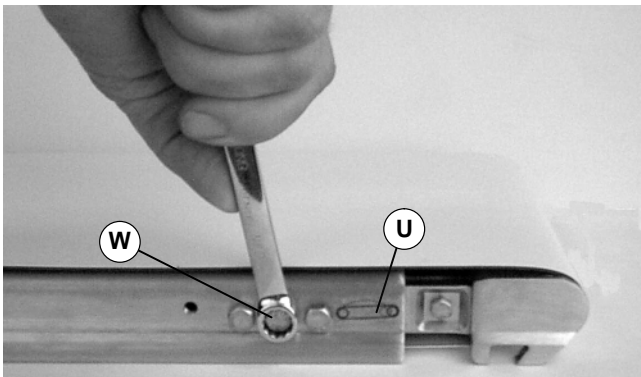

Figure 19
4. With pinion gear engaged, place a 10 mm wrench on lock screw (W of Figure 19).
2. With pinion gear engaged, place a 10 mm wrench on lock screw (W of Figure 19).
5. Secure lock screw (W of Figure 19) to 40 in-lb (4.5 Nm).